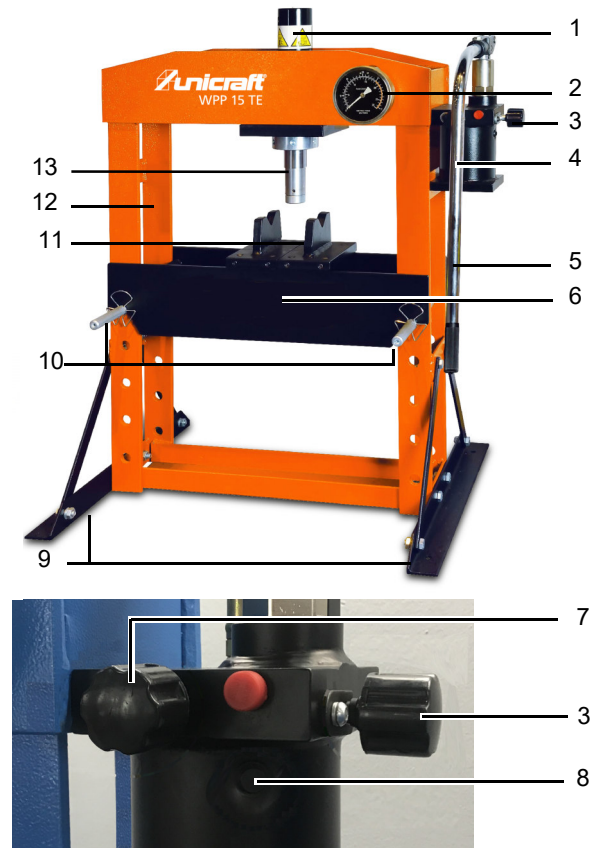

Fig. 4: WPP 15 TE hydraulic workshop press
Step 1: Check the hydraulic oil level in the cylinder. Remove the stopper 8, fig. 4. The oil level should reach the opening.